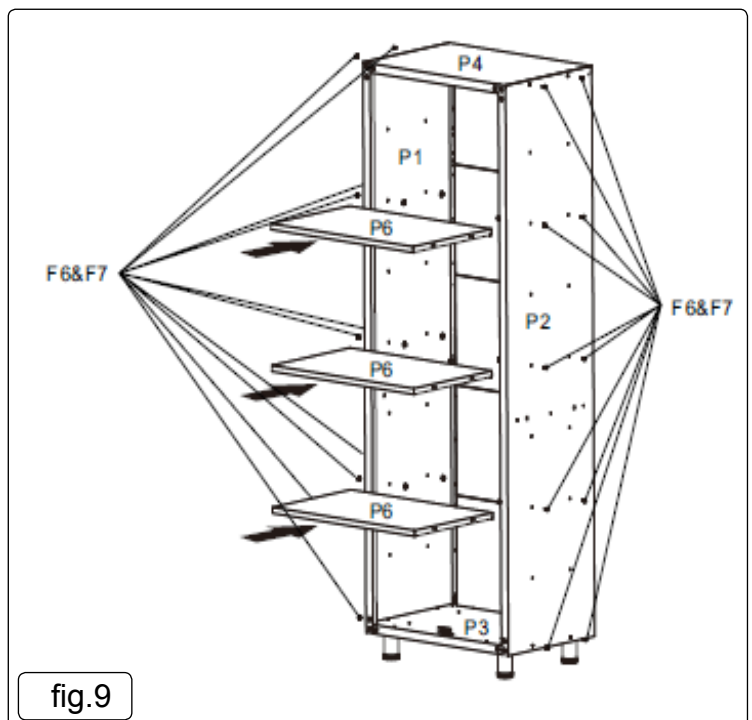

fig.9
5.8. Slide shelves into place and attached to side panels as per fig.9.